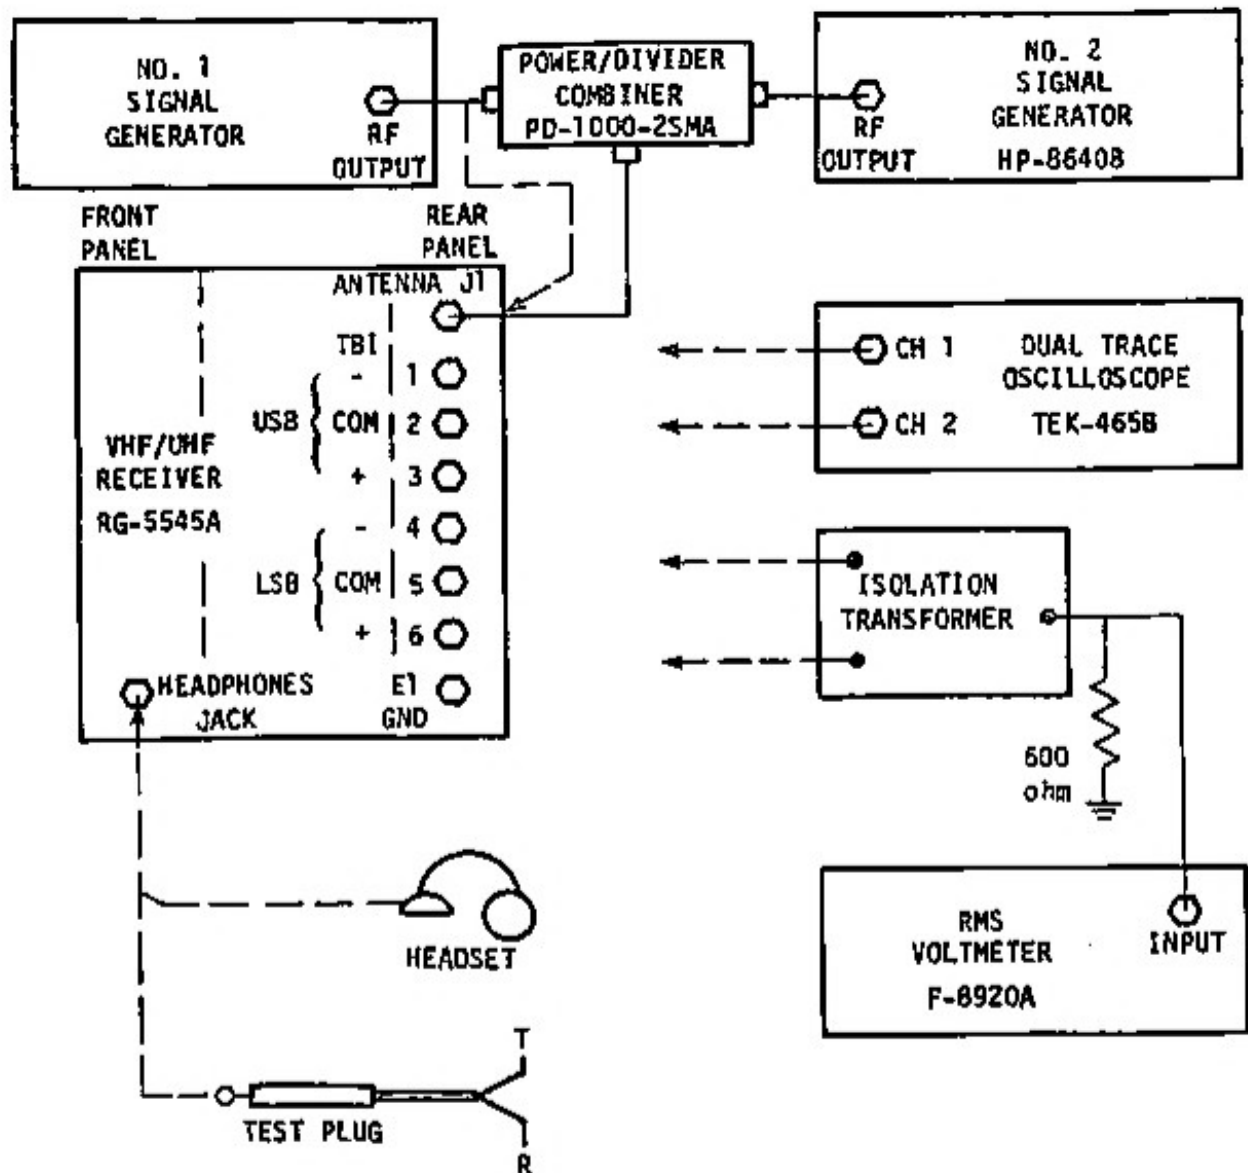

Figure 5-5. Audio Output Test
1. Obtain and connect test equipment as shown in Figure 5-5 with oscilloscope connected to HEADPHONES jack (tip to channel 1 and ring to channel 2) and signal generator no. 1 connected directly to ANTENNA connector J1 on Receiver rear panel.
19. Connect RMS voltmeter between terminal board TB1 terminals 1 and 3 through isolation transformer as shown in Figure 5-5.